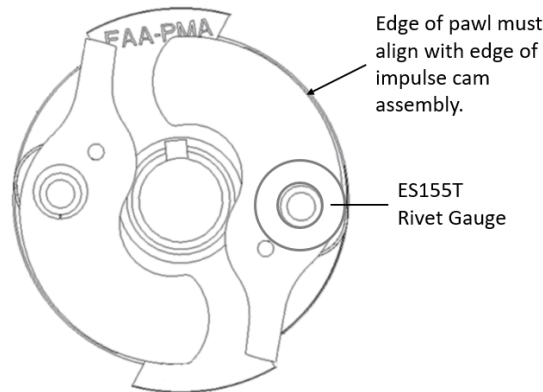

FIGURE 10
- a. Install the ES155T gauge to fit the outer diameter (OD) of the impulse pawl axle into the inner diameter (ID) of the ES155T gauge.
- b. While holding the ES155T gauge in place, align the outer edge radius of the impulse pawl to align with the outer edge radius of the impulse cam assembly. Refer to Figure 10.